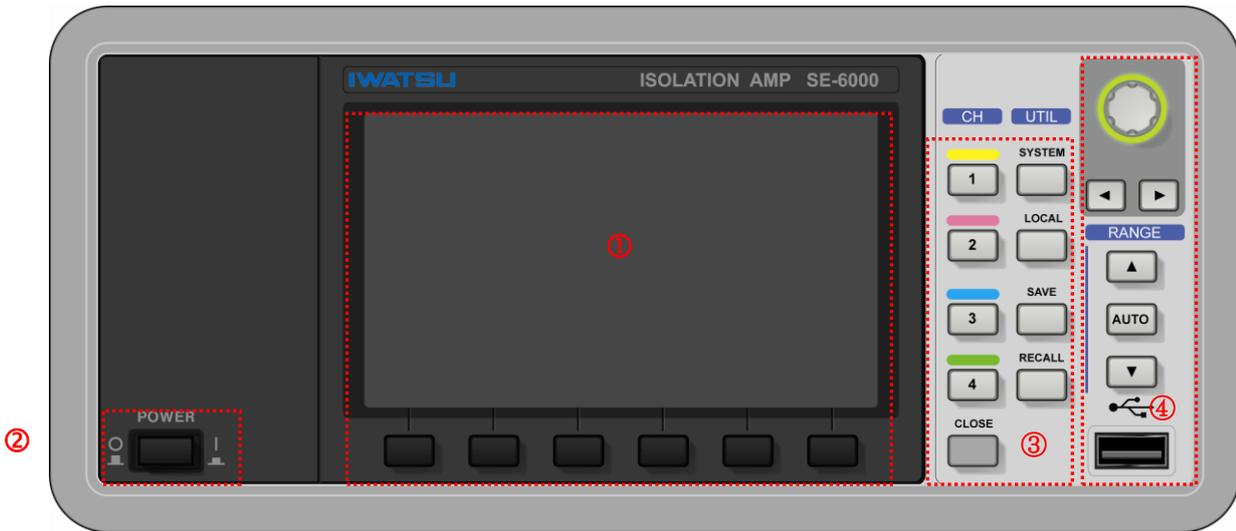

Figure 2.1 Front panel of SE-6000
The front panel of Isolation Amplifier is shown in Figure 2.1, and each of sections ① to ④, sub screens, keys, terminals, switches, etc., is explained in Table 2.1.